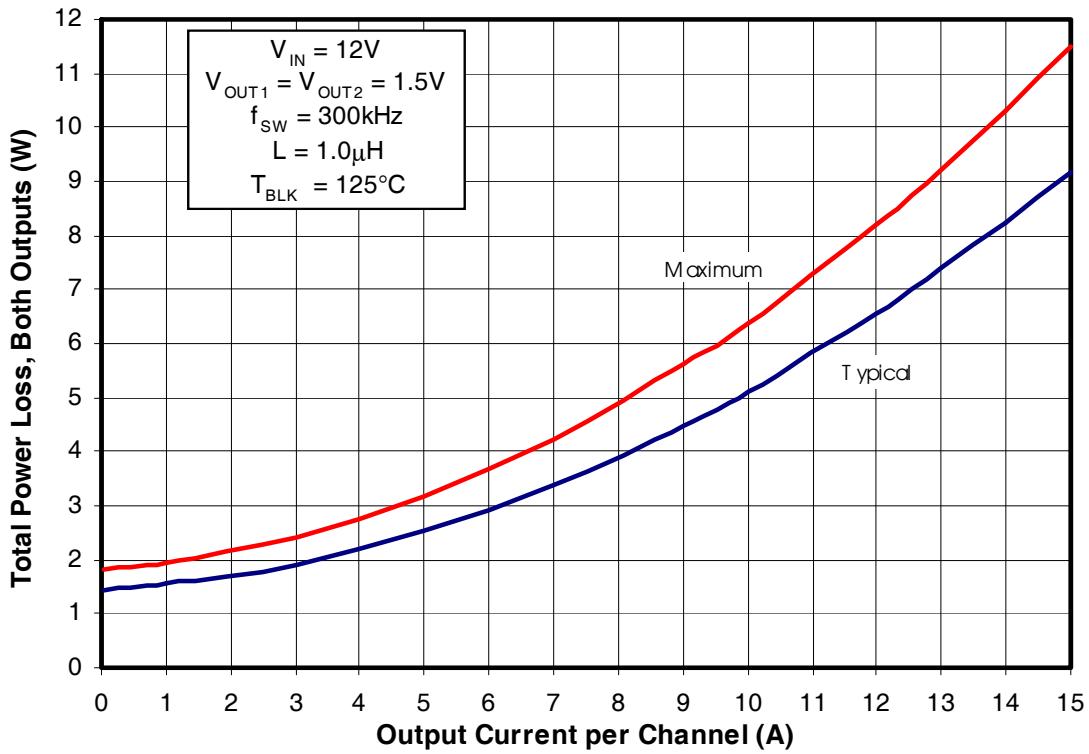
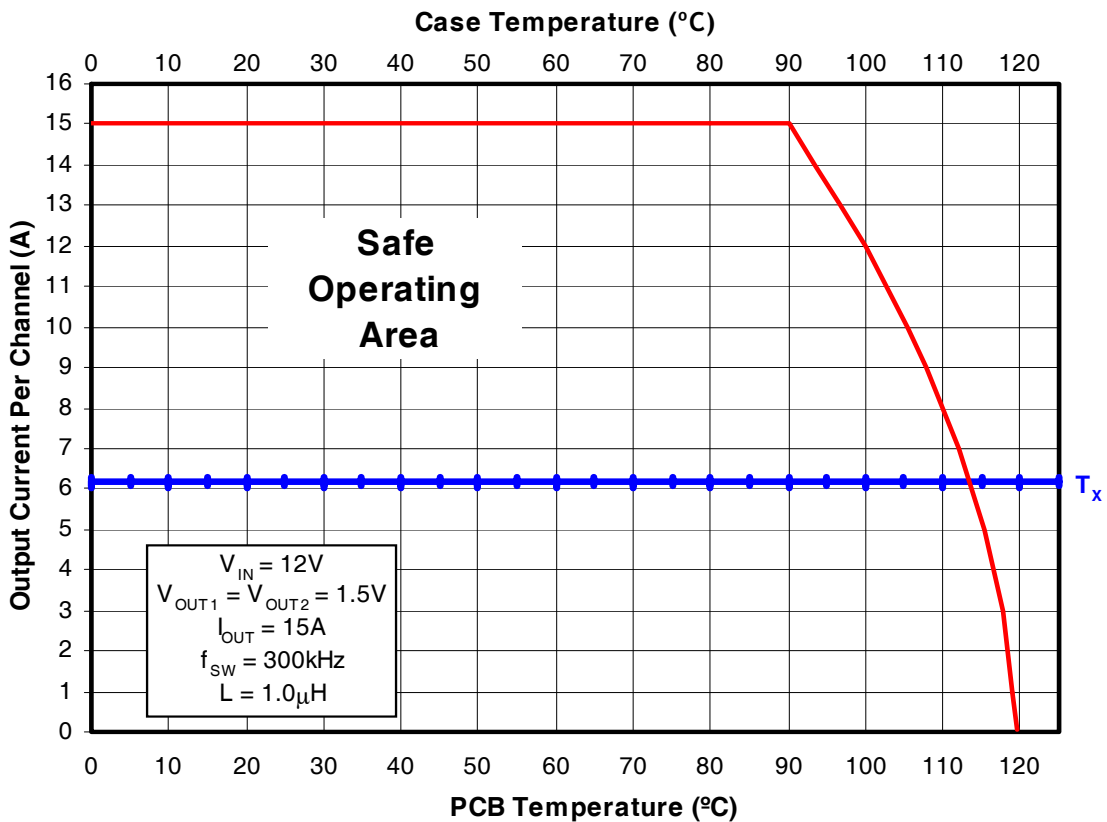
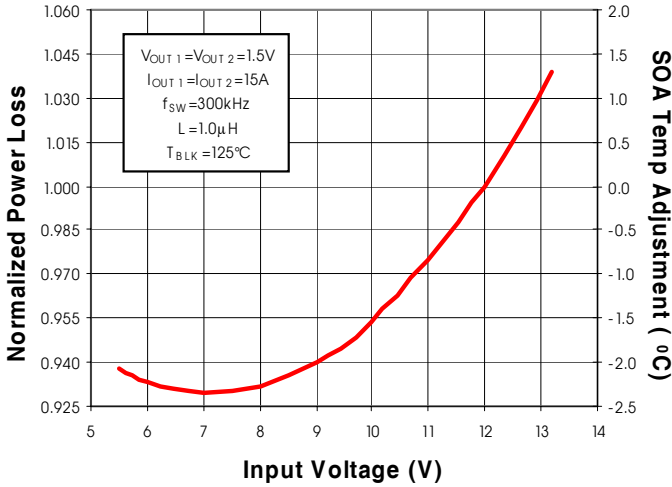

Fig. 2: Power Loss vs. Current
Fig. 3: Safe Operating Area (SOA) vs. T_{PCB} & T_{CASE}
Fig. 4: Normalized Power Loss vs. V_{IN}
To make adjustments to the power loss curves in Fig. 2, multiply the normalized value obtained from the curves in Figs. 4, 5, 6 or 7 by the value indicated on the power loss curve in Fig. 2. Remember that the power loss in Fig 2. is the power loss for 2 outputs operating with the same output voltage. If differing output voltages are used the initial power loss for each channel needs to be divided by 2. Then if multiple adjustments are required, multiply all of the normalized values together, then multiply that product by the value indicated on the power loss curve in Fig. 2. The resulting product is the final power loss based on all factors. See example no. 1.
To make adjustments to the SOA curve in Fig. 3, determine your maximum PCB Temp & Case Temp at the maximum operating current of each iP1202PbF. Then, add the correction temperature from the normalized curves in Figs. 4, 5, 6 or 7 to the T_x axis intercept (see procedure no. 2 above) in Fig. 3. When multiple adjustments are required, add all of the temperatures together, then add the sum to the T_x axis intercept in Fig. 3. See example no. 2.
- Output1 (Fig. 2) Maximum power loss = $W 8.25/2 = 4.125W$
(Fig. 4) Normalized power loss for input voltage ≈ 0.93
- Output2 (Fig. 2) Maximum power loss = $6.4W / 2 = 3.2W$
- (Fig. 4) Normalized power loss for input voltage ≈ 0.93
- Output1 (Fig. 4) Normalized SOA Temperature for input voltage $\approx -2.3^{\circ}C$
- Output2 (Fig. 4) Normalized SOA Temperature for input voltage $\approx -2.3^{\circ}C$